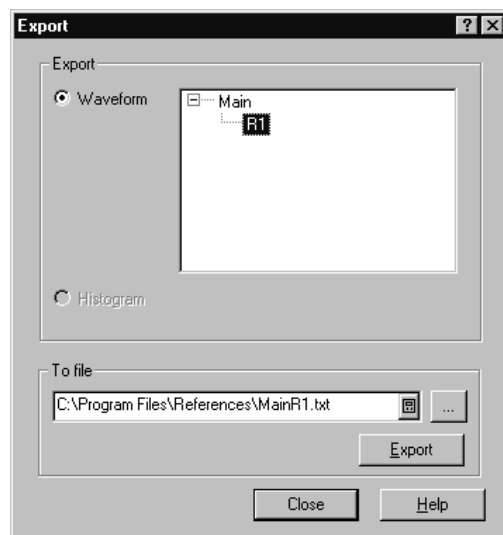

Figure 3–25: Export dialog box
- Select Export Waveform from the the File menu instead of Save waveform. The Export dialog box displays (see Figure 3–25 that follows).